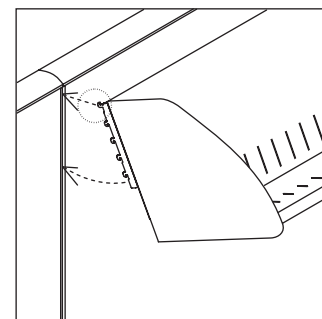

FIG. 4
1. Decide on the panel height where you want to locate the shelf unit. Holding the front edge of the shelf unit higher than the rear edge (Figure 4), slide the top safety teeth into the appropriate slots on the panel trimrails.